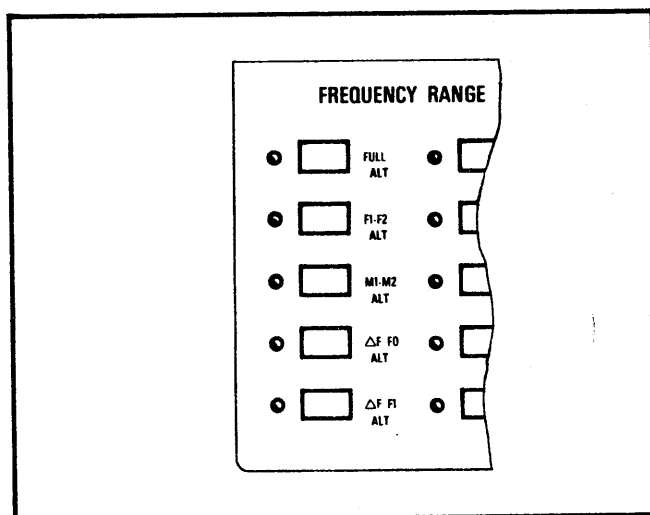

Figure 3-10. FULL, F1-F2, M1-M2, ΔF F0, ΔF F1 Pushbuttons
1. ALT Pushbuttons (Figure 3-10). Cause the RF output to alternate between any two of the five available sweep ranges (FULL, F1-F2, M1-M2, ΔF F0, ΔF F1). The two sweeps (A and B) are selected, and their start/stop parameters set, in the normal manner (paragraph 3-2.2a). The A (primary) sweep is chosen first, the SHIFT pushbutton is pressed, then the B (alternating) sweep is chosen. After the B sweep is chosen, the numeric displays and LED indicators will return to their unshifted state; the LED indicators associated with the A and B sweep ranges will alternately flash on and off.
- a. FULL, F1-F2, M1-M2, ΔF F0, and ΔF F1 Pushbuttons (Figure 3-10). These pushbuttons select the sweep mode as follows: